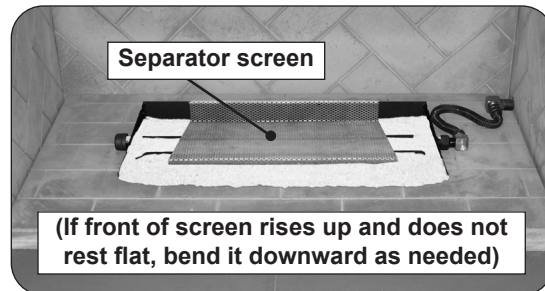
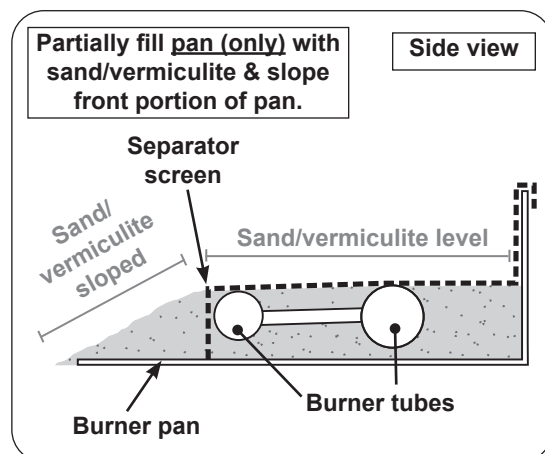

Fig. 12-2 Place screen
Fig. 12-3 Sand/vermiculite & screen detail
- Slope the sand/vermiculite in the front portion of the pan (see Fig. 12-3).
- Place the separator screen over the sand/vermiculite and pan. The rear of the screen must hook over the rear of the burner pan as shown in Fig. 12-2 and Fig. 12-3.